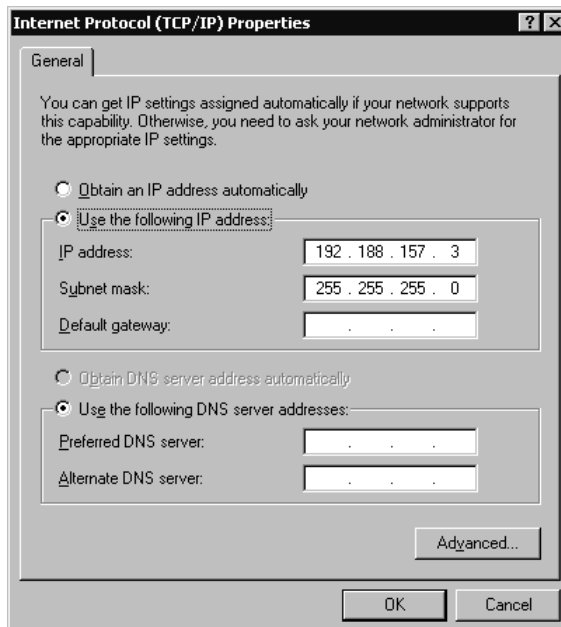

Figure 6-9. TCP/IP Properties
7. Enter an IP address and Subnet mask to be associated with this link on the server. This is the address a mainframe-based application will use to establish contact with the Windows 2000 server (Figure 6-9). The address must be in the same IP subnet as the address assigned to this link on the mainframe.